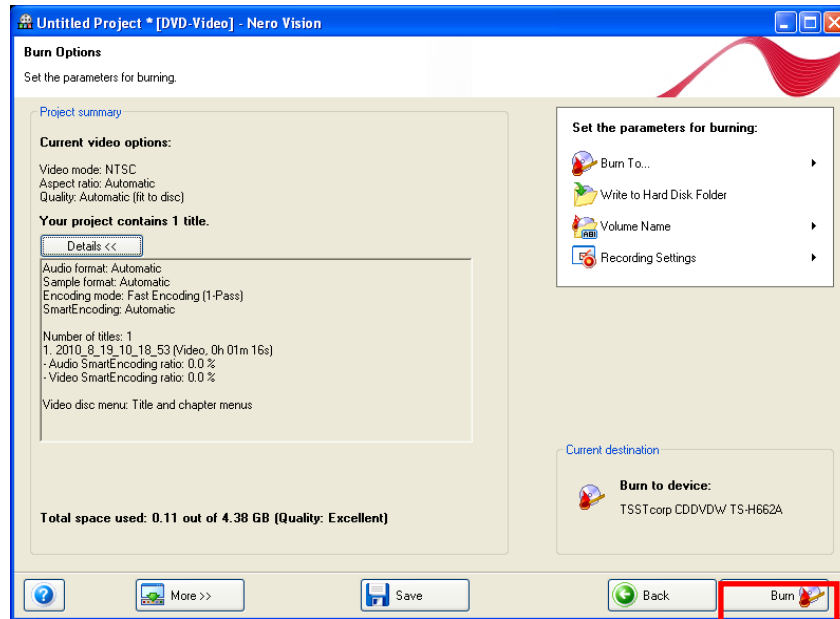

Figure 170. AAR – Burn Options
10. From the Burn Options window, click [BURN] (Figure 170).